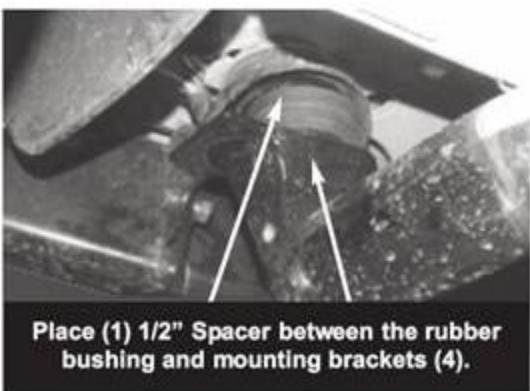

Figure 4 - 1/2" x 1.88 x 3/16" Spacer
2. From underside the driver side front of the vehicle, remove the factory body mount bolt. Remove but do not discard the rubber bushing. Install (1) 12-1.75mm x 120mm Hex Bolt with (1) 12mm ID x 30.1mm OD x 3.1mm Flat Washer and (1) 12mm Lock Washer through the Driver Side Front Mounting Bracket. Position (1) Spacer Plate between the Mounting Bracket and the factory rubber bushing, **(Figure 4)**. Slide the complete assembly up into position under the cab mounting bracket and thread the 12mm Hex Bolt into the factory mounting hole. Snug but do not tighten at this time.